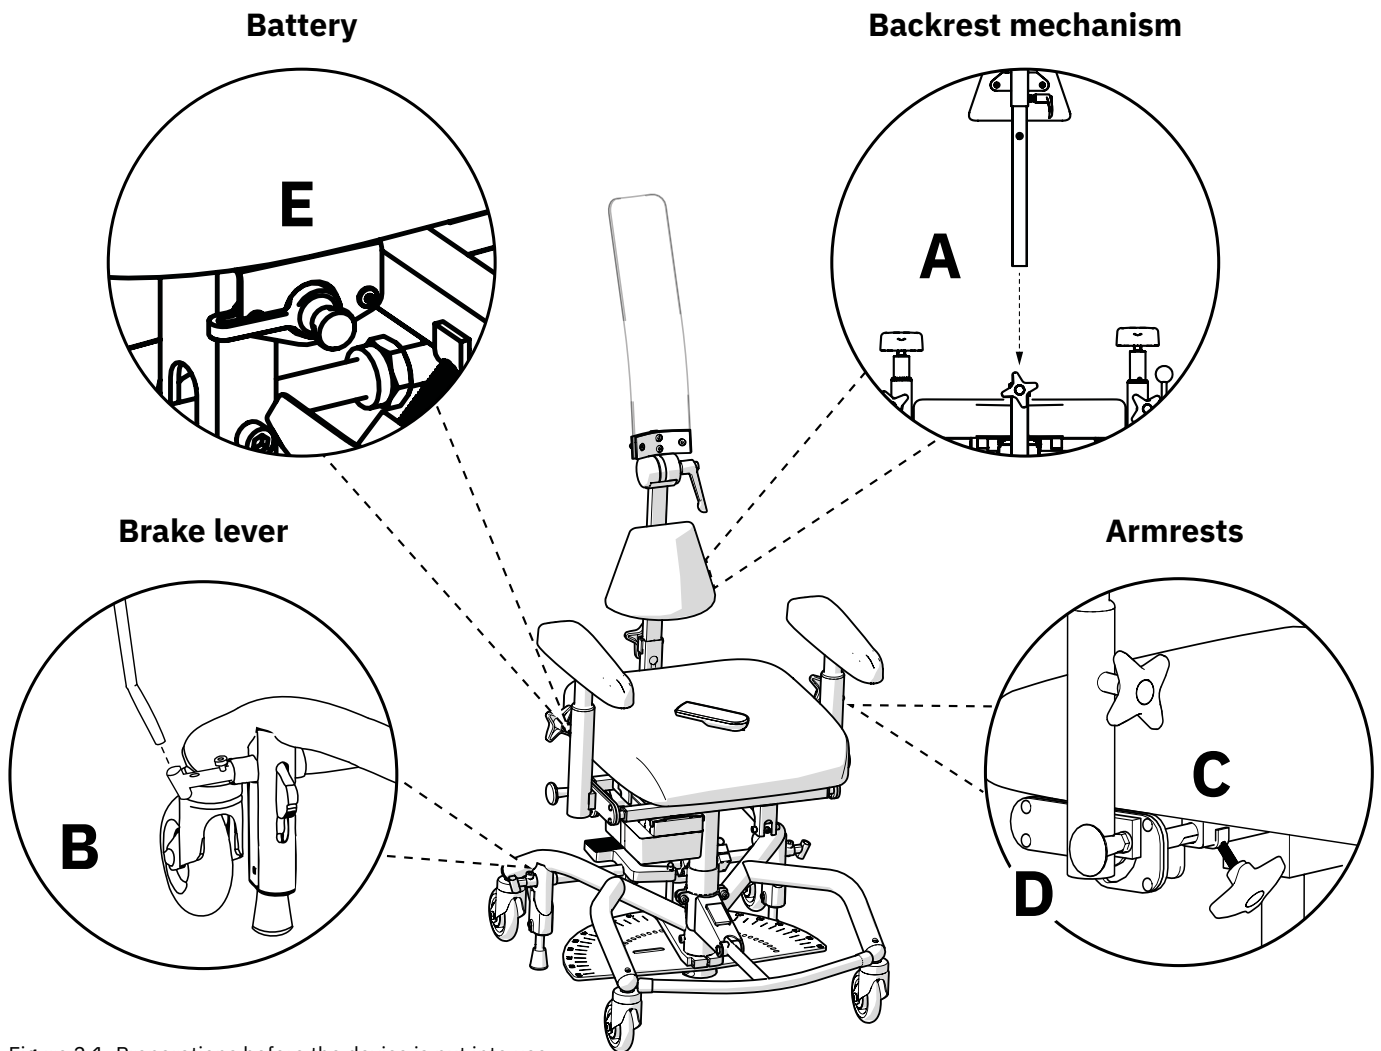

Figure 2.1. Preparations before the device is put into use.
Place the back rest support post in the back rest mechanism (B) and set the desired height level, see Figure 2.1. Tighten all levers (A). The picture shows one of the two standard back supports that come with the device. For adjusting back supports and backrest mechanisms, see 5.6. Backrest mechanism and back support.
If you intend to use the foot brake, it is advisable not to mount the brake lever. If you intend to use the handbrake function, mount the brake lever as follows: Insert the brake lever into the brake lever bracket (B) (see Figure 2.1). The brake lever can be placed on the right or left side.
Loosen the armrest controls (C) and set the desired height and width levels, see Figure 2.1. Tighten all controls (C). Make sure the knob (D) clicks into the locking position when the armrest is lowered. If the knob does not click in position, rotate the knob until it clicks firmly.
The battery must be activated and locked before it is used for the first time. This is done by connecting the battery charger to the device's charging socket and to a wall outlet (E), see Figure 2.1. The charging socket can be placed in different places on the device. The device usually comes with the charging socket mounted in the rear edge under the seat.